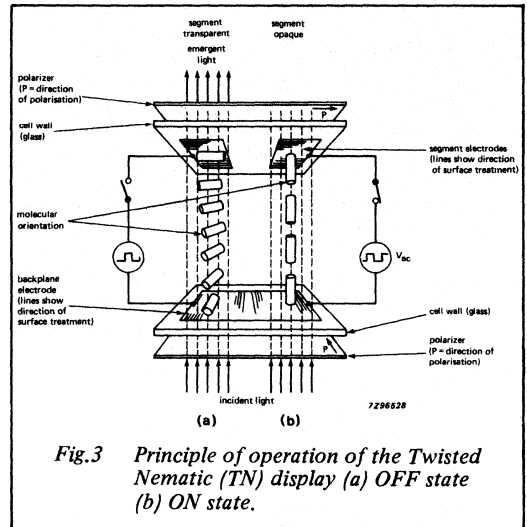

Fig.3 Principle of operation of the Twisted Nematic (TN) display (a) OFF state (b) ON state.
The operating principle of Twisted Nematic (TN) LCDs is illustrated in Fig.3. The nematic liquid crystal molecules are anchored in a fixed direction at the top and bottom plates by the orientation layer. As the orientation directions of the top and bottom plates differ by an angle of  $90^{\circ}$  the crystal molecules are twisted through a  $90^{\circ}$  helix between the two plates. Polarizing filters are aligned with the orientation directions at the respective sides. Polarized light from the bottom polarizer is then guided by the crystal molecules through the helix to the top plate with its polarization direction rotated by  $90^{\circ}$ . This property is caused by the optical anisotropy of the molecules. As such the polarization direction is aligned with the top polarizer and the light passes unhindered through it to give the display a bright appearance (Fig.3(a)).
If sufficient voltage is applied across the electrodes the electrical anisotropy of the molecules will cause them to align with the electric field and the  $90^{\circ}$  twist in the optic axis will be distorted. The light will then pass through the liquid crystal but will maintain its polarization direction and will be absorbed by the second polarizer (Fig.3(b)). On switching off the initial state is restored and the cell is again transparent. Under these conditions the display will appear black when ON and bright when OFF which is known as a positive image display.